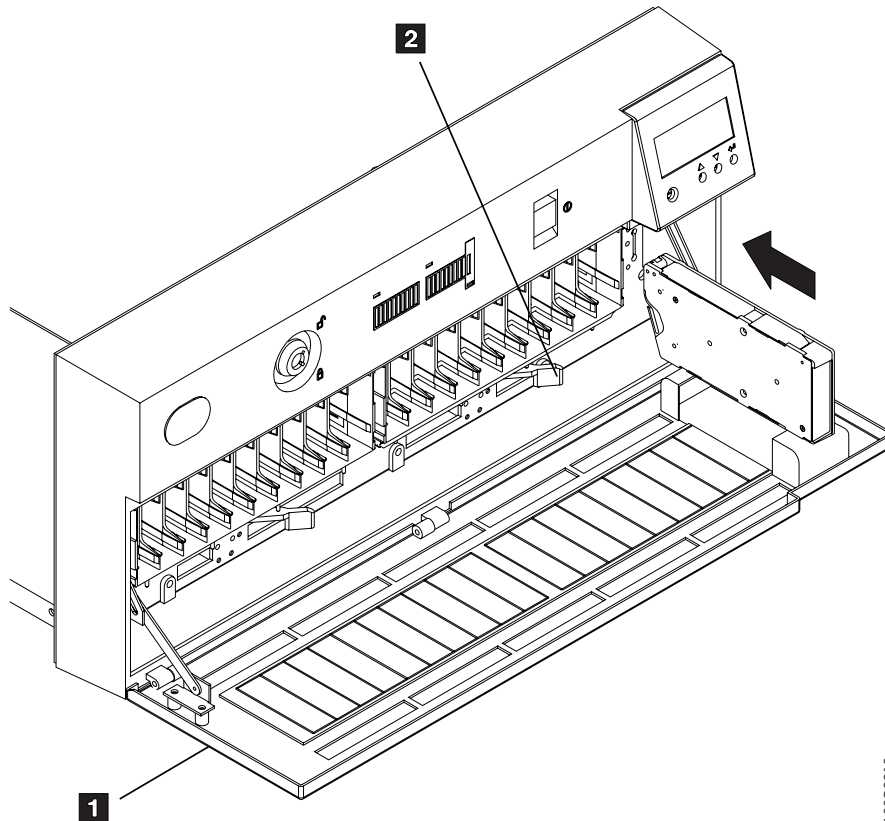

Figure 64. Loading a Cartridge in the Library
4. Insert new cartridges into the magazine in the orientation shown in Figure 64. Be sure to insert the cartridge to the full import position by pushing it gently into the magazine until it comes to a stop and even with the front of the magazine.